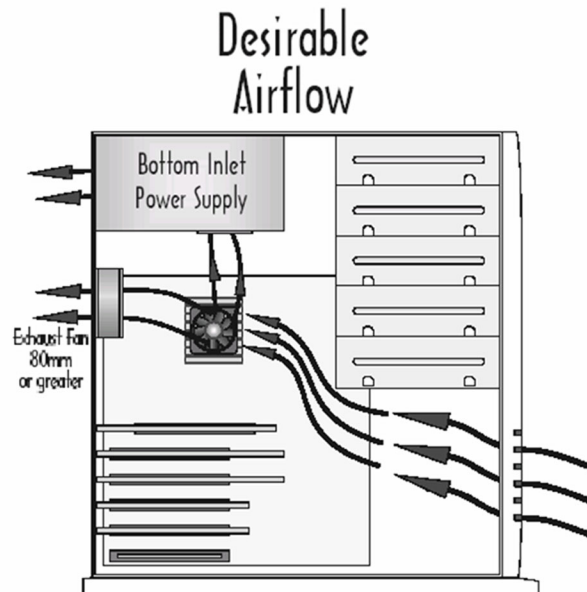
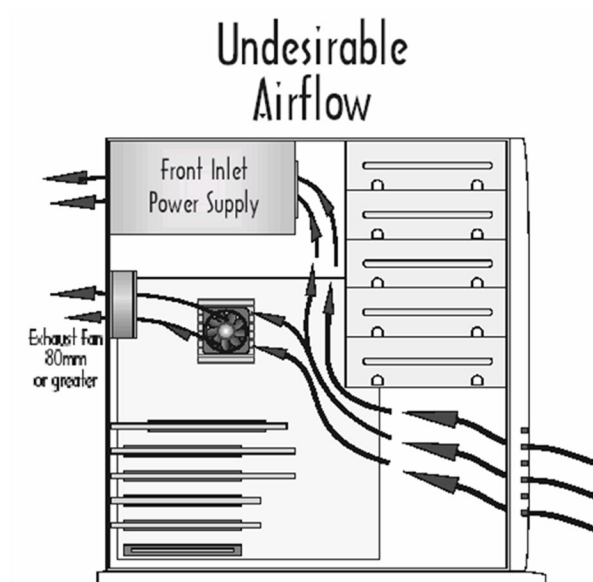

Figure 20. Desirable Airflow—Power Supply with Bottom Inlet
Figure 21. Undesirable Airflow—Power Supply with Front Inlet Only
- Testing done by the AMD thermal engineers has shown that the airflow pattern in Figure 20 is more desirable than the airflow pattern seen in Figure 21 on page 25.
Because heatsinks are heat radiators, like the radiator in an automobile, they need airflow to function properly. Figure 20 on page 25 shows desirable airflow through a chassis. Desirable configurations use a bottom-inlet power supply.
Figure 21 shows undesirable airflow through a chassis. Undesirable configurations use a front-inlet power supply.